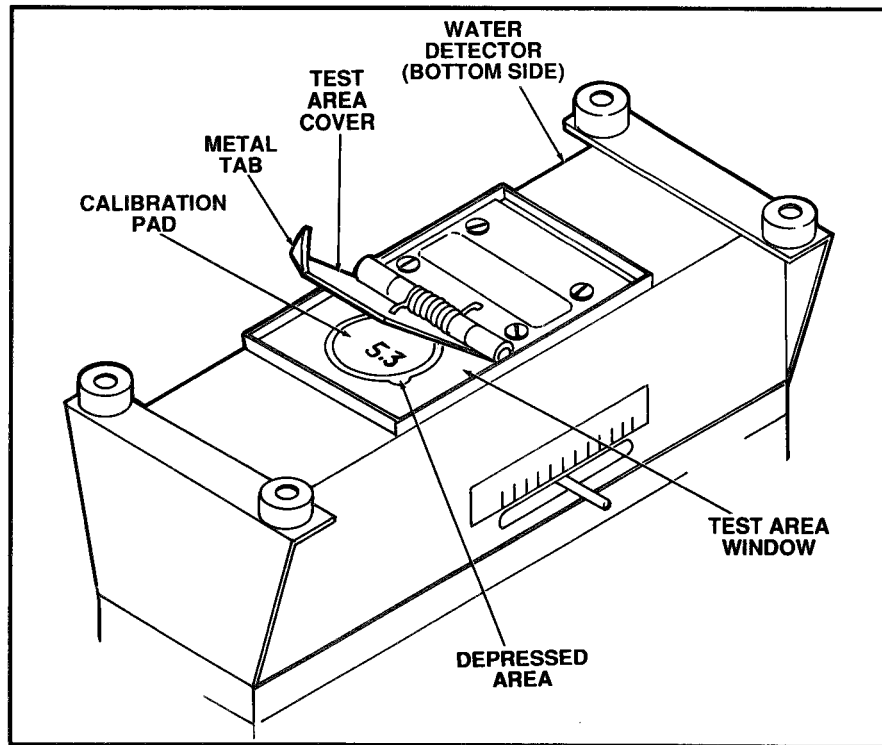

Figure 2.23 Placement of Calibration Pad in Test Area Window
- c. Insert the Calibration Pad in test area window located on the bottom of the water detector: lift the cover's curved metal tab and place the pad (text facing you) in the depressed circular area or "window" located in the center of the test area (Figure 2.23). Close the test area cover and stand the water detector upright.